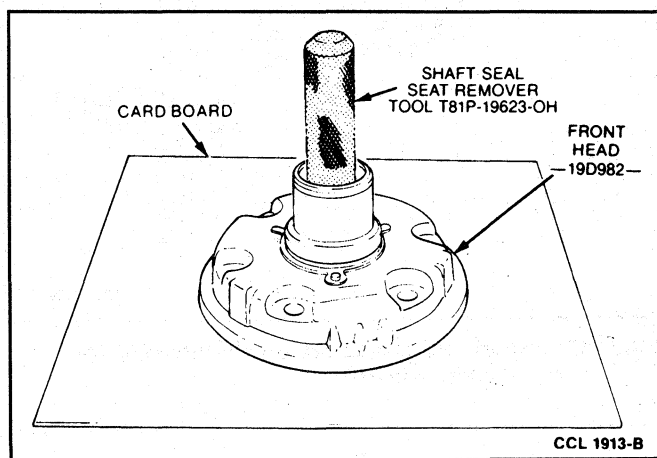

FIG. 16 Shaft Seal Seat Assembly—Removal
11. Place the head on a piece of clean corrugated cardboard and remove the seal seat assembly from the head with Shaft Seal Seat Remover T81P-19623-OH or equivalent (Fig. 16).
21. Place the front head on a piece of clean corrugated cardboard and remove seal seat assembly from the front head with Shaft Seal Seat Remover T81P-19623-OH or equivalent (Fig. 16).